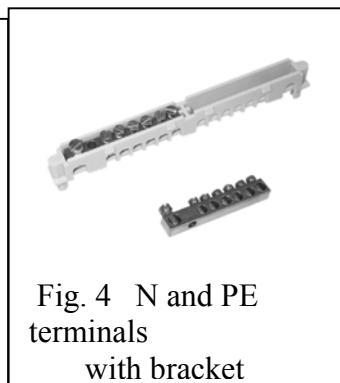

Fig. 4 N and PE terminals with bracket
Interior switch boxes are manufactured as devices mounted on or under the wall plaster, with full door (FO) or transparent door (PT)- Fig. 1. They can be installed both in newly constructed buildings and in old buildings, where electric wiring is modernized. They are adapted mostly in apartments buildings, family houses and in commercial facilities. Switch boxes are available in one row version up to three row version. In every row there is the place for 12+1 standard- modules with the width 17,5 mm. They are intended for the assembly of the standard- modular equipment. Switch boxes series CT and CM have great interest everywhere, the quality and aesthetics of works is important. Thanks to the modern style and design, they are in tune with the inside decorations of every kind of the interior. They have original casing shape with round edges and decorated with moldings doors. The construction of switch boxes makes possible the door opening on left or the right side with angle of 180°. Casing is made from self-extinguishing material ABS, with very good mechanical proprieties and big resistivity. They are available in the white color - RAL 9010. Complete set is provided with clamps {connectors} N and PE - Fig. 4, which can be installed in upper or the lower part of the switch box. All switch boxes have high fire and flame resistance (respectively in 650°C and 850°C temperatures according to PN-IEC 60695-2-1 norm), they have isolations class II, cover protection degree IP40 and the protection degree against mechanical shocks IK 08. They comply also with requirements of many European and Polish norms, e.g. PN-IEC 439-3, IEC 670 and EN 60439-3.